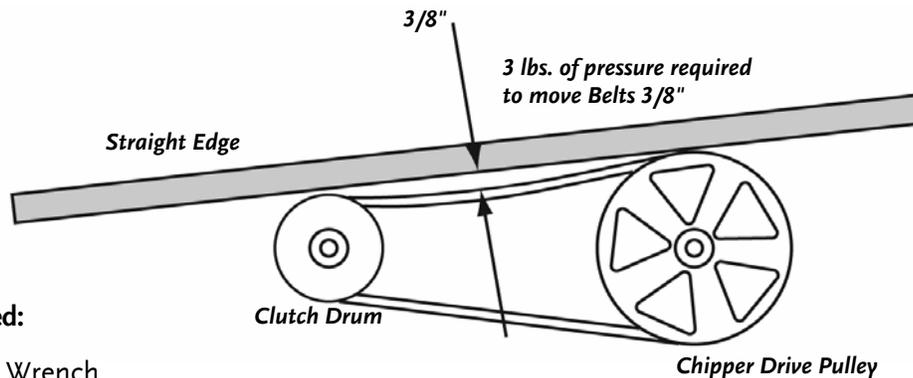

Figure 13
The belts on your DR ROAD-TOWABLE CHIPPER should deflect $3/8$ " under approximately three (3) pounds of pressure as shown in **Figure 13**; if they do not, adjust per the following directions.
3. Tighten or loosen the nut on the Belt Tensioner (**Figure 14** on page 36) using a 1/2" Wrench until you have the correct tension as shown in **Figure 13**.
4. Retighten the four (4) Engine Bolts.